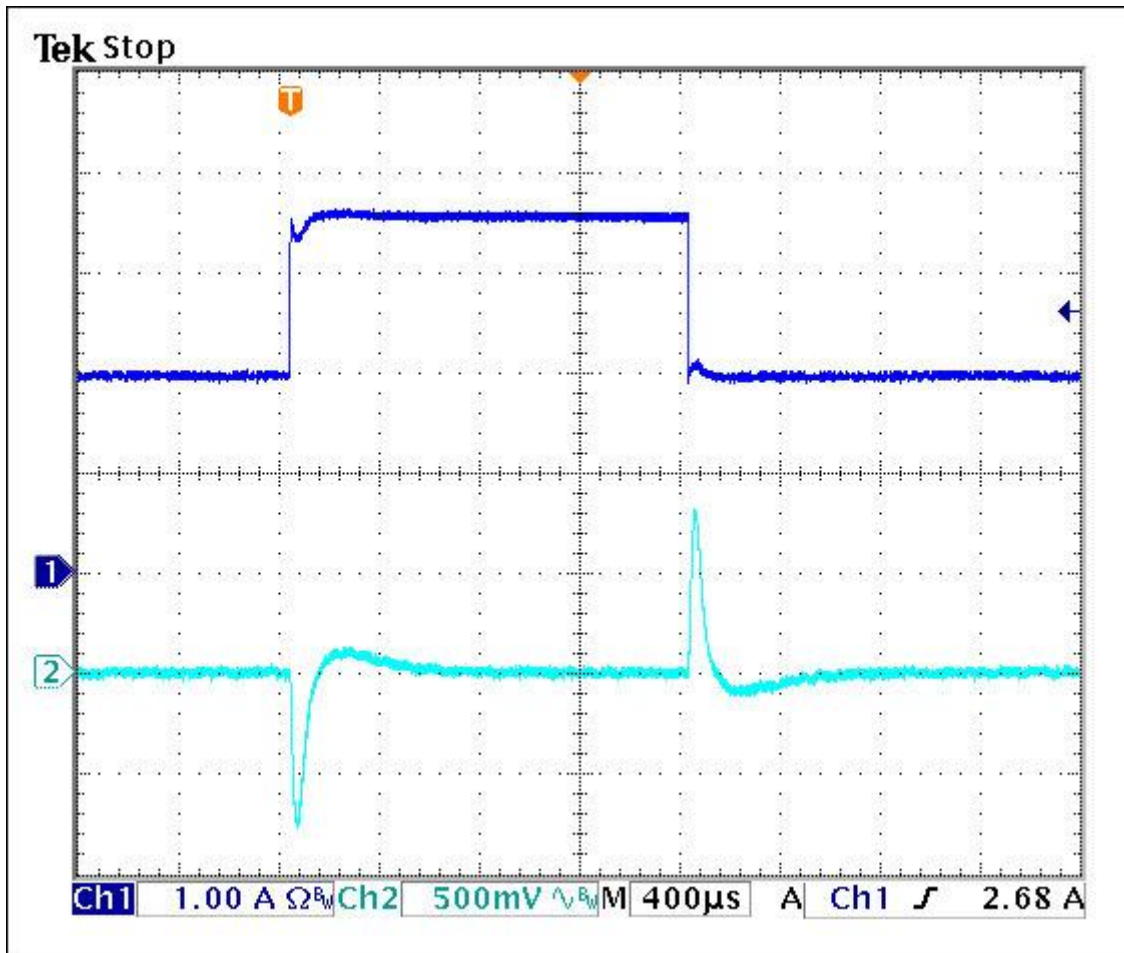

Figure 5. Transient response when load steps from 2A to 3.5A.
**Figure 5** shows the load transient response when the load is stepped from 2A to 3.5A, and then dropped back to 2A again. The transient voltage is about 800mV. The input is 24V.